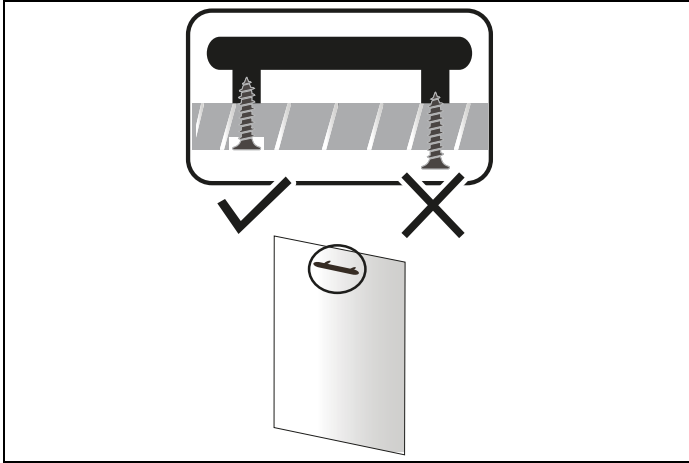

Fig. 28
5) Before mounting the wooden door on the dishwasher, mount the handle on the wooden door as in Fig. 28.